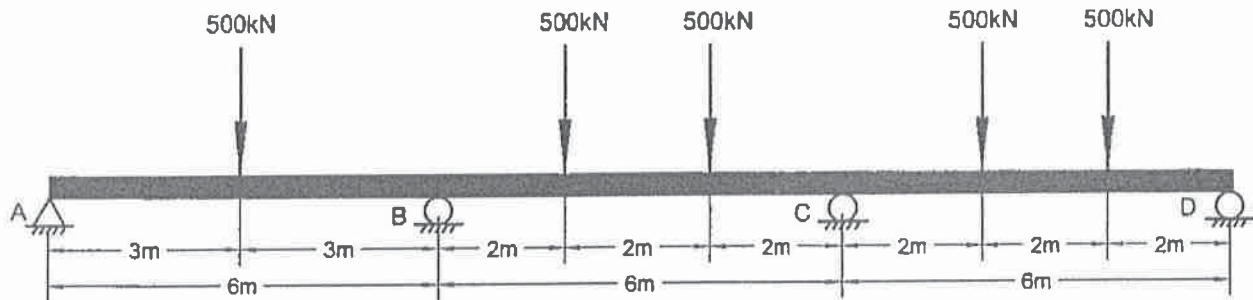

FIGURE 1
1. The three-span continuous welded plate girders, shown in Figure 1, is to be designed using the non-stiffened-web approach. Design a cross-section suitable for flexure, shear, and their interaction.
2. Use the plastic method of design to choose adequate steel sections for the members in Figure 1.